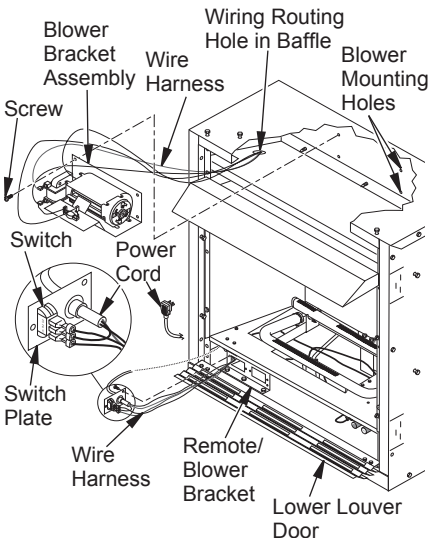
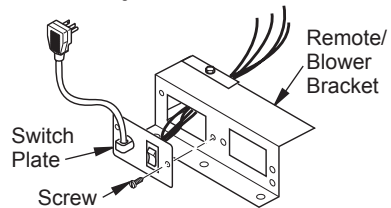

Figure 14 - Installing Blower Bracket Assembly (Remote-Ready Unit Shown)
Figure 16 - Installing Switch Plate to Remote/Blower Bracket
3. Note the wire locations on back of AUTO/OFF/ON switch. The terminals on back of switch are numbered 1, 2, and 3. Carefully remove red wire from terminal 3 and blue wire from terminal 1. Black wire can remain on middle terminal 2 (see Figure 14).
5. In top of the fireplace cabinet, locate the four mounting holes on the outer casing. Align these four holes with those on the blower bracket assembly. Attach blower bracket assembly to the outer casing with 4 #10 screws provided (see Figure 14).
7. Insert the 4 wire harnesses from behind the remote/blower bracket through hole in rear of bracket with bushing and through the left rectangular hole to front of fireplace (see Figure 14).
9. Install the switch plate on the remote/blower bracket with 2 #10 screws provided (see Figure 16). Route power cord out of the cabinet by inserting it through the bushing on the outer casing (see Figure 14). Plug fan kit into 120-Volt grounded power supply and test operation.